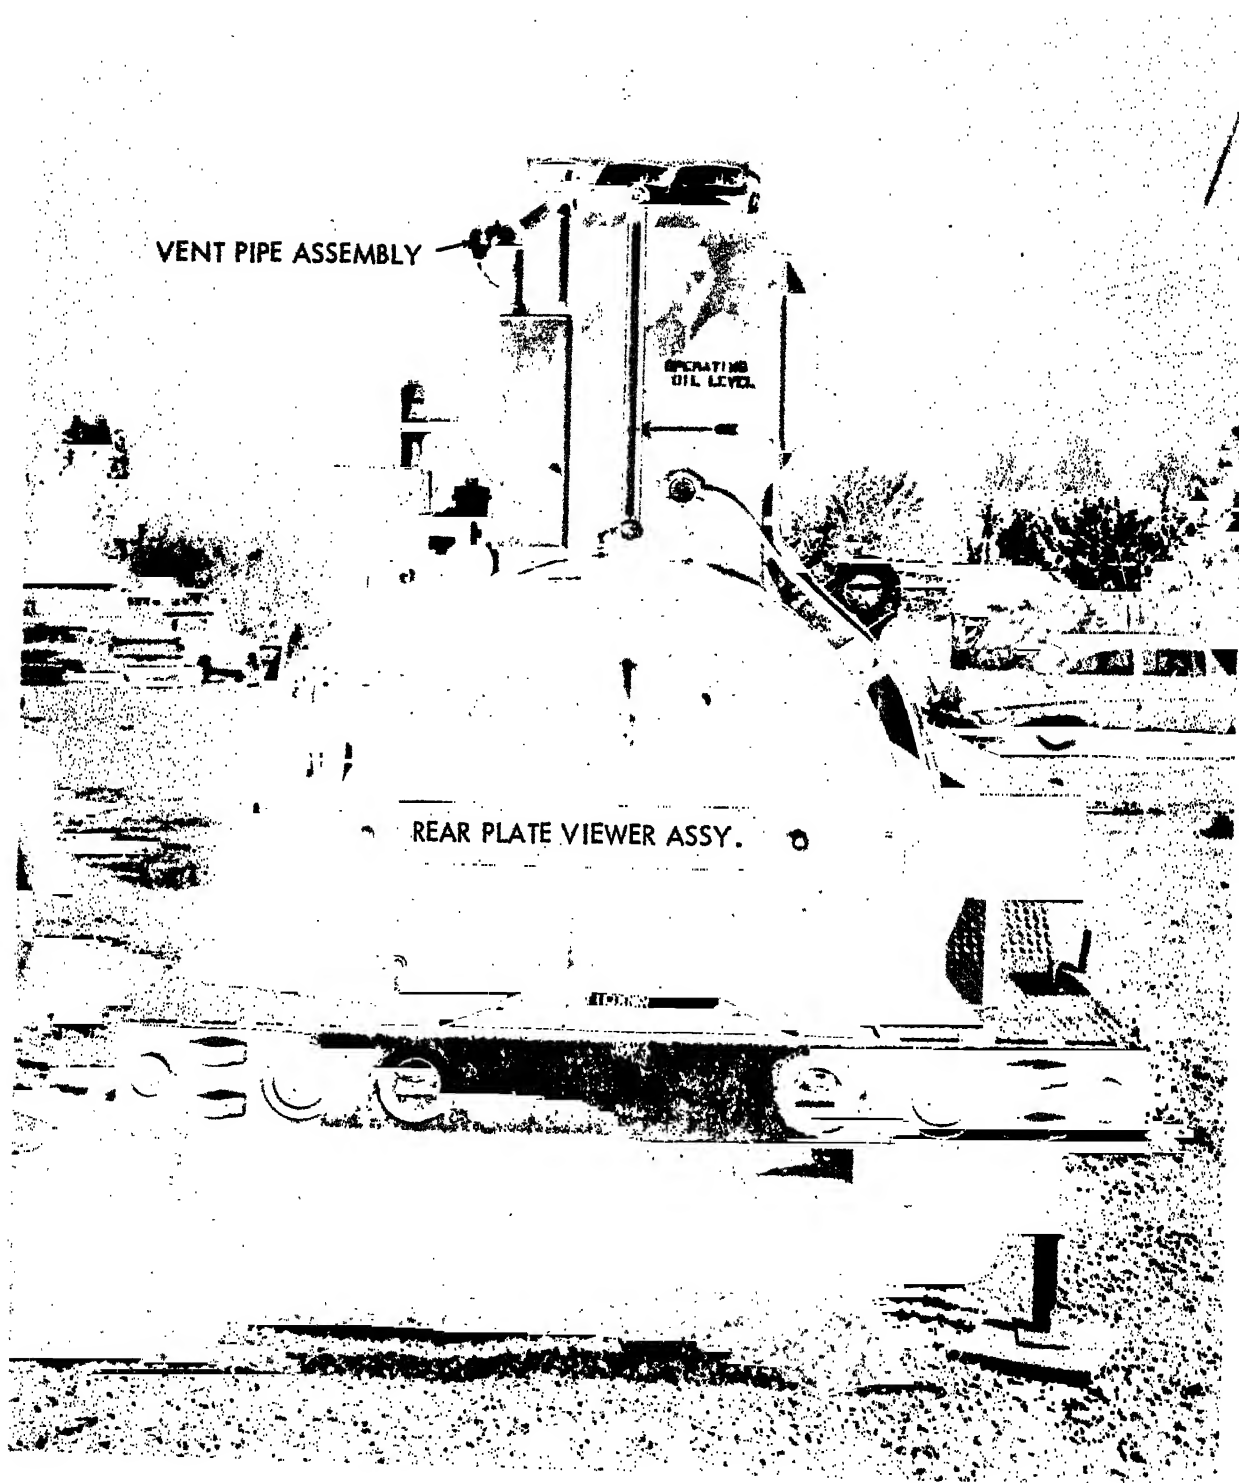

FIGURE 36. REMOVAL AND SERVICE TO VENT PIPE ASSEMBLY
a. Removal. Refer to Fig. 36 and remove the vent pipe assembly.
- a. Removal. Refer to Fig. 36 and remove the rear plate viewer assembly.
- c. Installation. Refer to Fig. 36 and install the rear plate viewer assembly.
2. Refer to Fig. 36 and view the electrode spark through the rear plate viewer assembly. Spark should be a bright blue if electrodes are properly adjusted.